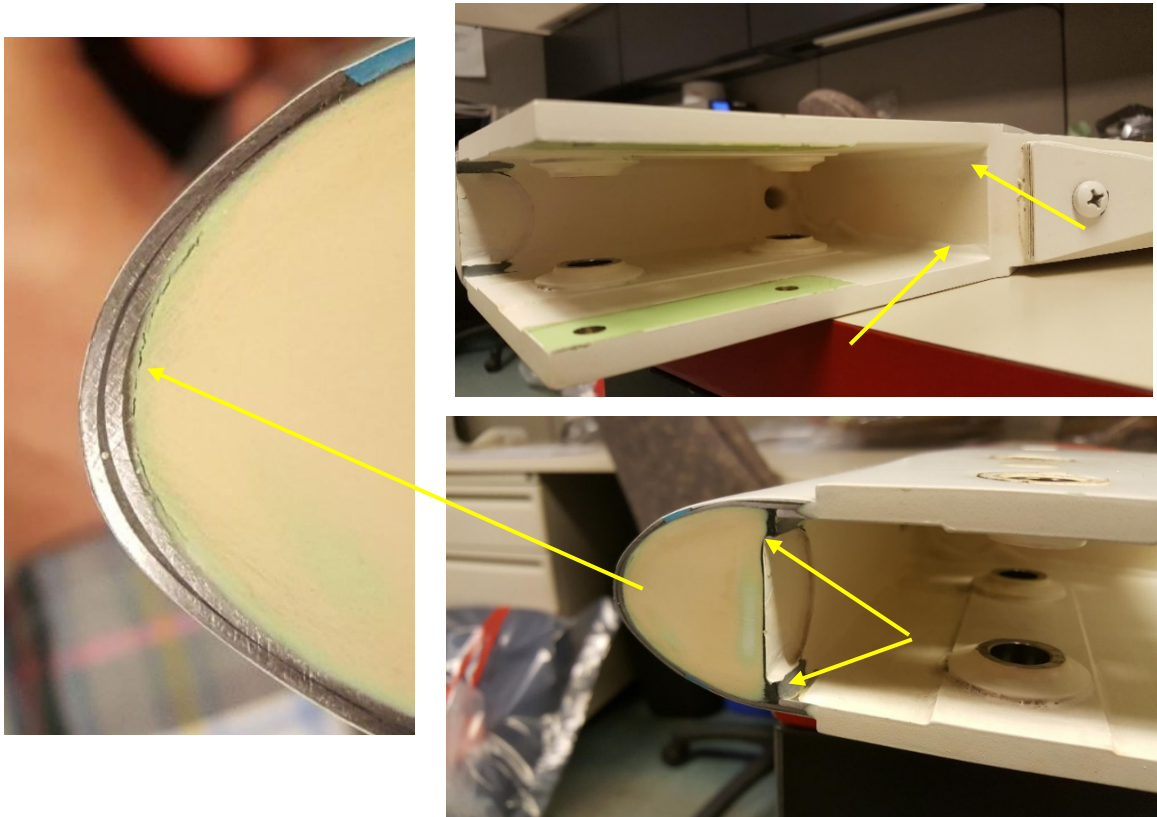

Figure 1. Areas where cracks can be found.
Bell has received reports of tail rotor blades failing the leak check required per the 412 Maintenance Manual (MM) when suspected cracks are found in the blade root end cuff area. In some cases, due to misinterpretation of the results, blades rejected due to indications of air bubbles were in fact serviceable. Figure 1 below shows some areas where cracks can be found. The cracks found in the root end cuff area are usually limited to the adhesive squeeze-out produced during manufacturing and are not necessarily an indication of a bonded joint failure.